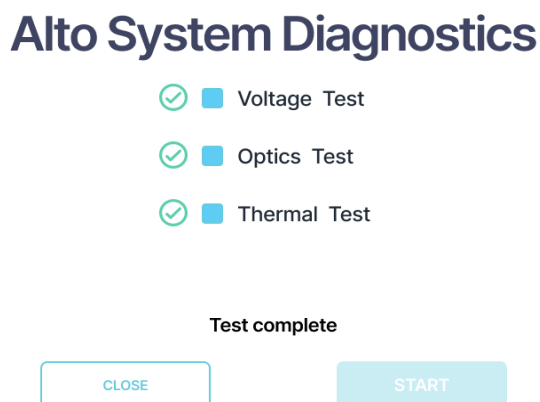

Figure 5.18: Success criteria for Alto system diagnostics.
- 5. Once the test is complete and successful, the screen in Figure 5.18 is shown. The green checkmarks in front of each selected test indicate that the instrument is good to proceed with the kinetics cartridge for the performance qualification test (if this is the first time using the instrument) or with the cartridge selected for your experiment.